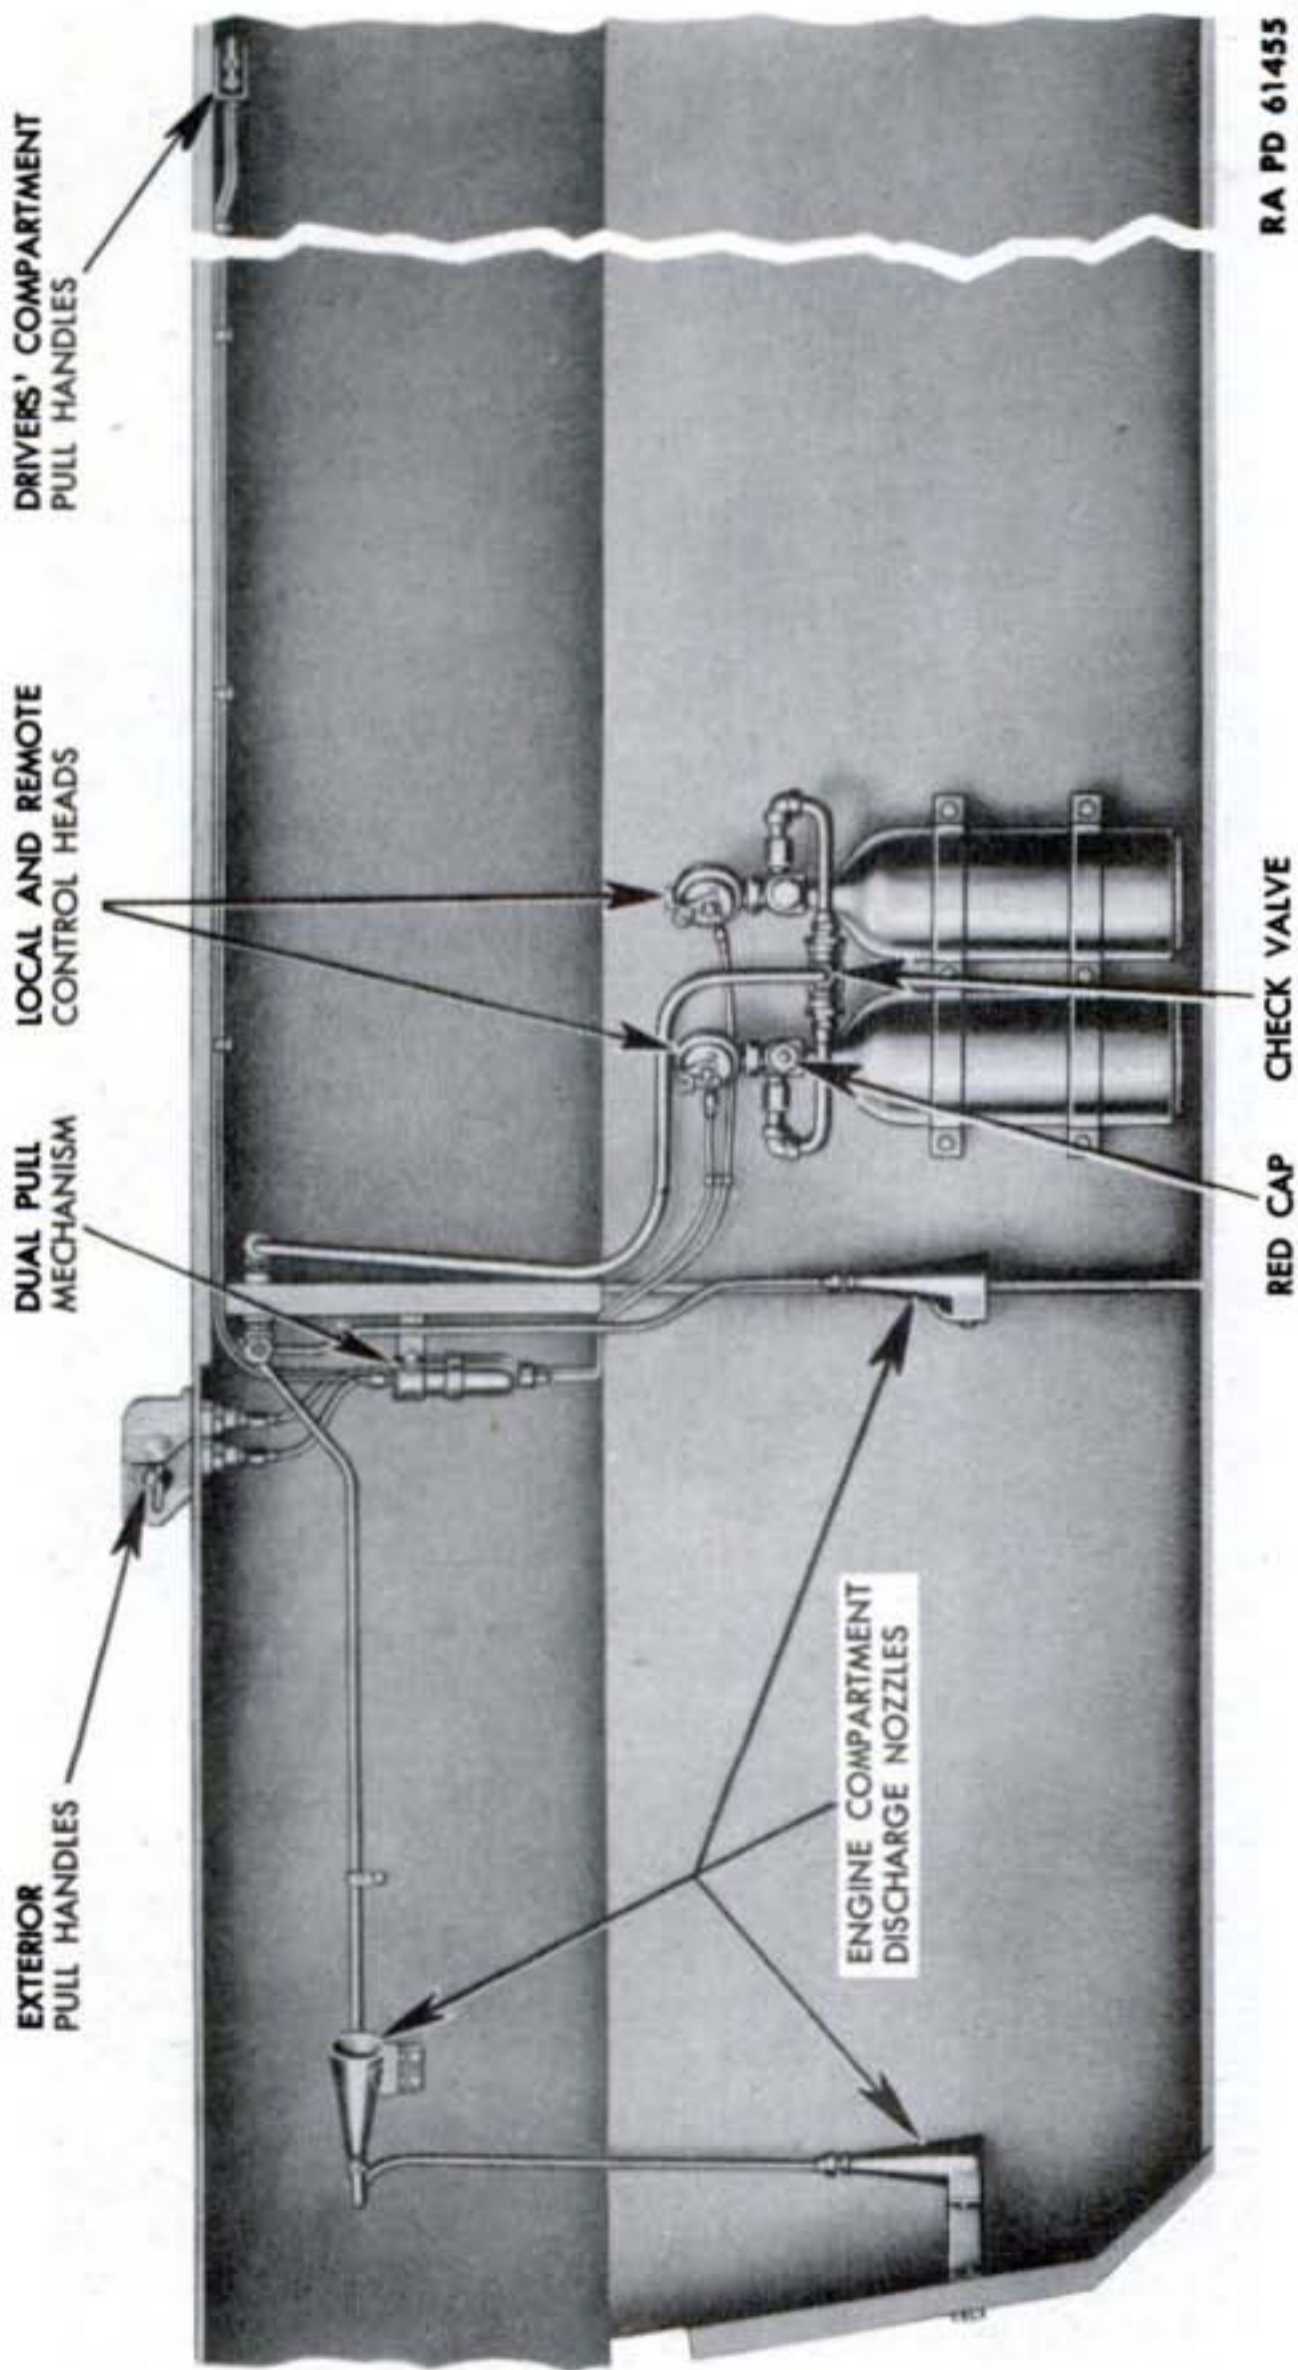

Figure 157—Fixed Fire Extinguisher System
a. **Description.** The fixed fire extinguisher system (fig. 157) provides protection against two fires in the engine compartment. It consists of two fixed fire extinguisher cylinders, each containing 10 pounds of carbon dioxide when fully charged, and connected by tubing to six nozzles in the engine compartment. The nozzles are shielded to distribute the gas effectively. The valves are equipped with remote control heads and can be operated by two pull handles mounted on the underside of the hull roof, above and to left of driver's seat (fig. 27), or by two pull handles on outside of hull at left rear of turret. The cylinders are clamped in a bracket on left side of hull inside the generator compartment. A check valve in the connection between the two cylinders and the main discharge tube prevents the gas from escaping into the crew compartment if one cylinder is operated while the other cylinder is removed. Each cylinder valve is equipped with a safety disk. If heat causes pressure in the cylinder to become too high, the cylinder will completely discharge, blowing off the red sealing cap on the safety disk outlet (fig. 29).
(1) **INSPECTION AND PREVENTIVE MAINTENANCE SERVICE** (par. 29 b (16)). Inspect entire system for any mechanical damage, and